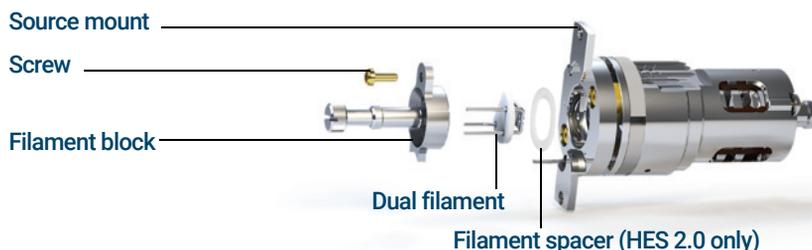

Figure 70. Replacing the dual filament
- 4 Remove the screw securing the filament block to the source mount. (See **Figure 70.**)
- 2 Insert the three pins on the dual filament through the rear of the filament block. (See **Figure 70** on page 215.)